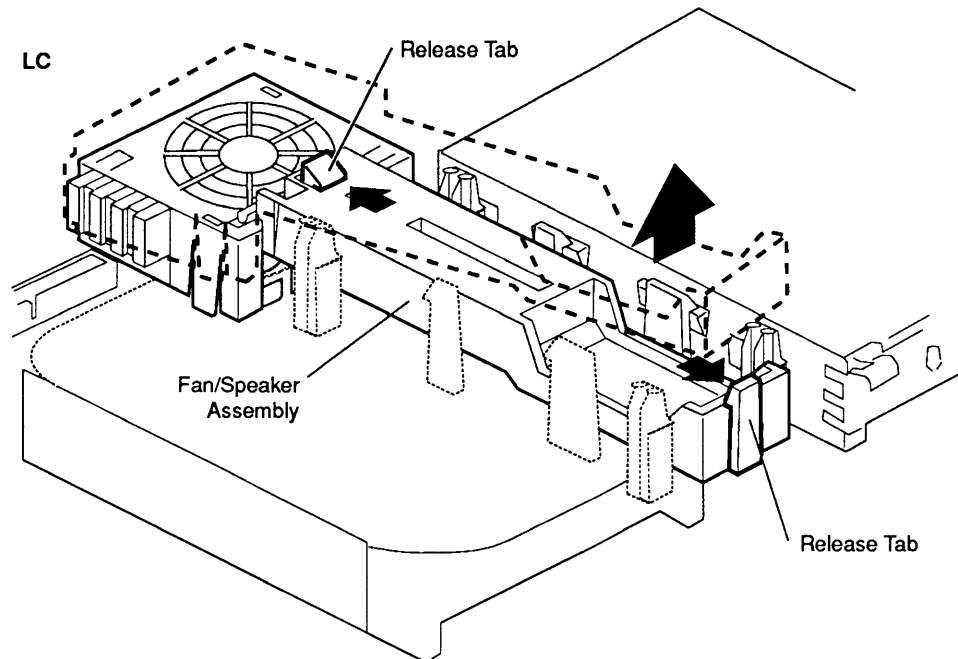

Figure 2-4 Removing and Installing the Fan/Speaker Assembly
2. Release the plastic tab (**Figure 2-4**) on one end of the fan/speaker assembly, and lift the assembly slightly. Release the other plastic tab and remove the fan/speaker assembly from the bottom case.
1. Insert the two tabs on the fan end of the fan/speaker assembly (**Figure 2-4**) under the logic board. Push the assembly down until you hear it snap into place.